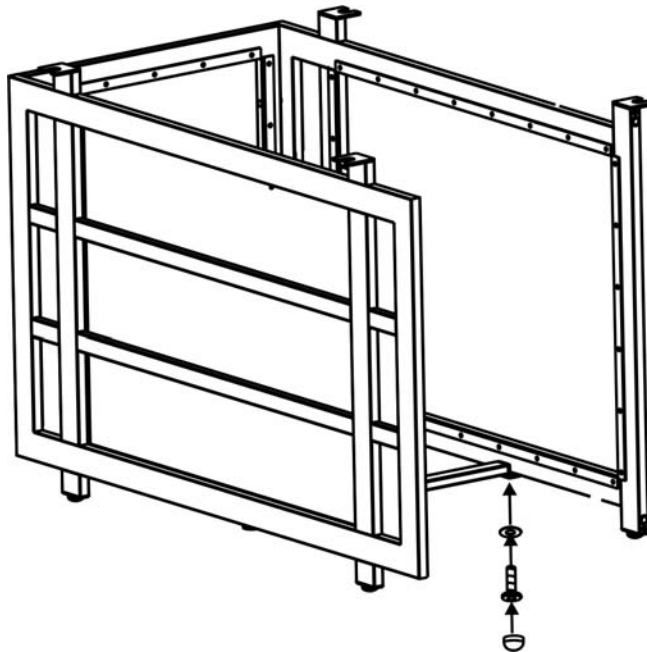

Figure 3
3. Attach the middle support to the side panels by using two 1/4"x15 mm bolts and washers as shown in Figure 3. Guide bolts through the holes in the middle support, into pre-drilled holes in the side panels. Hand tighten only.